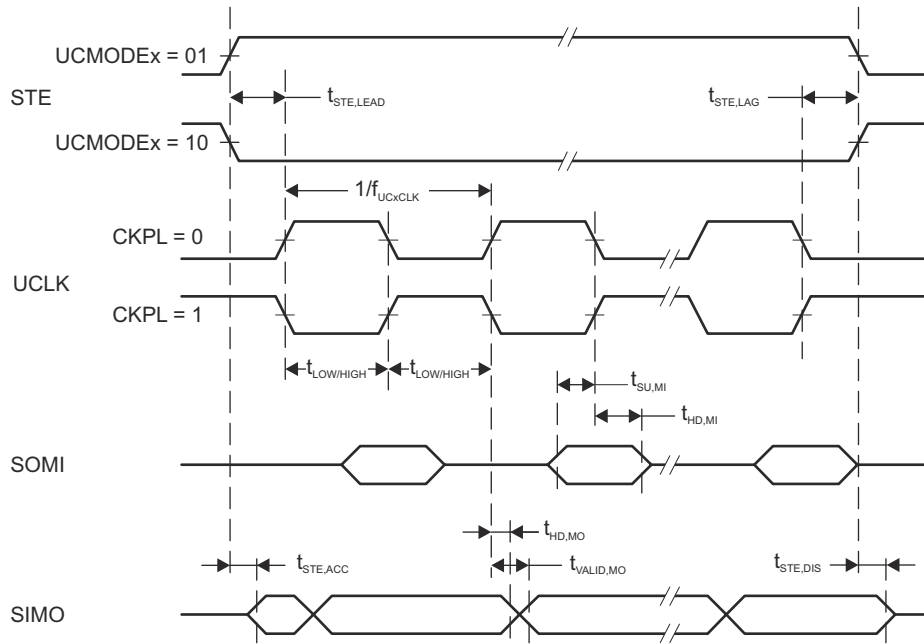
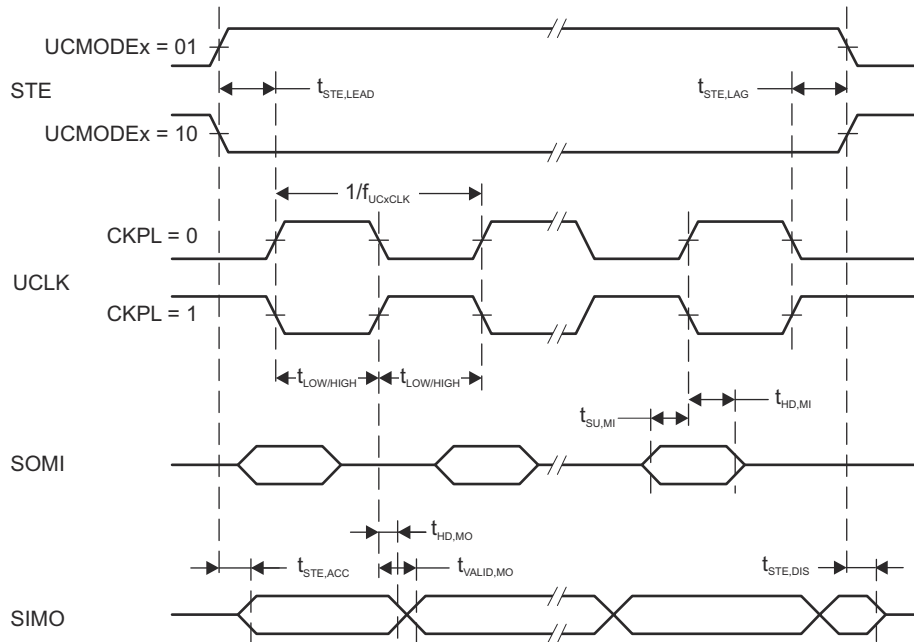

Figure 8-12. SPI Master Mode, CKPH = 0
Figure 8-13. SPI Master Mode, CKPH = 1
- (1) $f_{UCxCLK} = 1/2 t_{LO/HI}$ with $t_{LO/HI} = \max(t_{VALID,MO}(eUSCI) + t_{SU,SI}(Slave), t_{SU,MI}(eUSCI) + t_{VALID,SO}(Slave))$. For the slave parameters $t_{SU,SI}(Slave)$ and $t_{VALID,SO}(Slave)$, see the SPI parameters of the attached slave.
- (2) Specifies the time to drive the next valid data to the SIMO output after the output changing UCLK clock edge. See the timing diagrams in Figure 8-12 and Figure 8-13.
- (3) Specifies how long data on the SIMO output is valid after the output changing UCLK clock edge. Negative values indicate that the data on the SIMO output can become invalid before the output changing clock edge observed on UCLK. See the timing diagrams in Figure 8-12 and Figure 8-13.